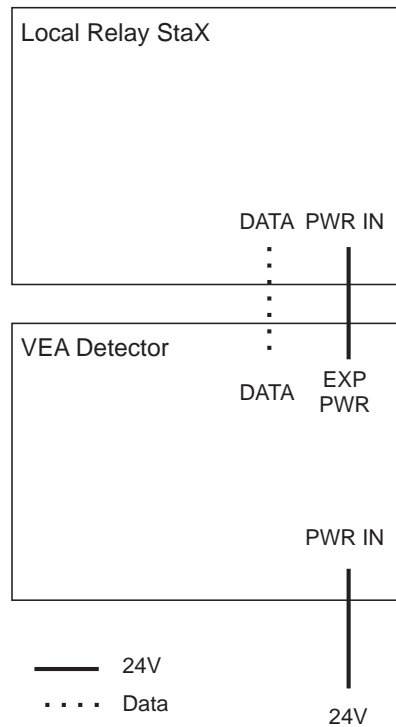

Figure 4-22: Single VEA detector and Local Relay StaX
- Detector with Local Relay StaX (Figure 4-22)